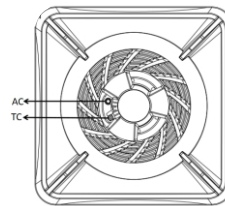

fig.1
The burners are graduated in their size and rating to provide the exact heat required for every style of cooking. The burners can be equipped with safety thermocouples (see fig.1). On the top of each knob there is a printed diagram showing to which burner or heating element it refers.
Automatic electrical ignition (only certain versions, see fig.1, ref. AC)
Lighting of burners equipped with safety thermocouples (only certain versions, see fig.1, ref. TC)
The surface of the hob, pan supports, enamelled burner caps and burner heads (see fig.1) need to be cleaned after each time they are used with warm soapy water, rinsed and then dried well to keep them in good condition.
- Check that the heads burners and the relative burner caps, are correctly positioned in their housings (see fig.1).